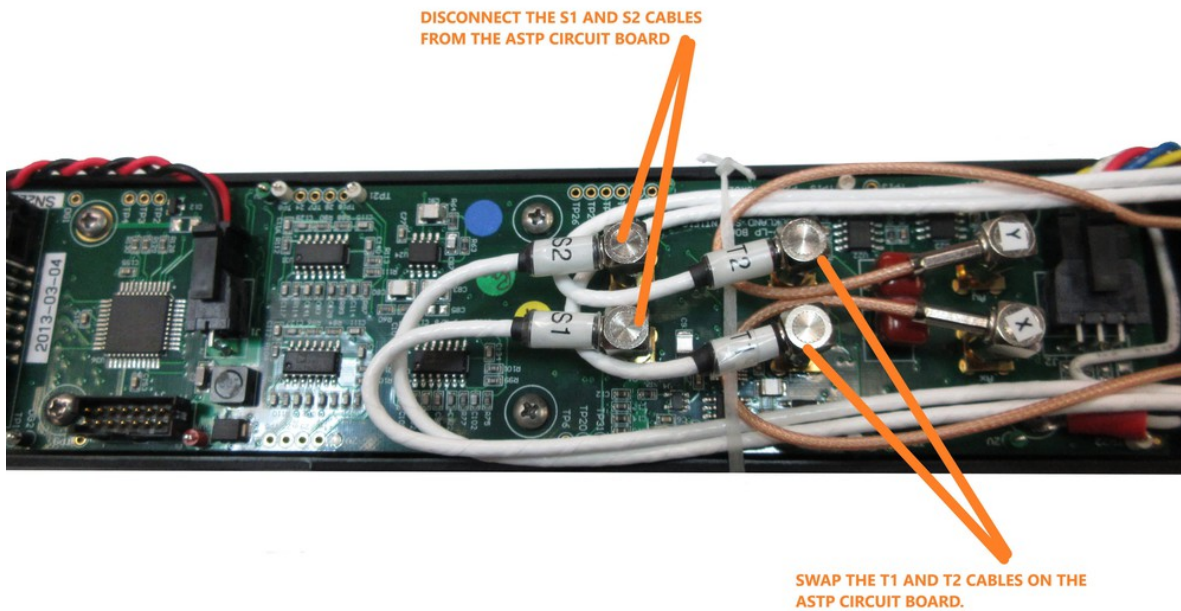

Figure 41: Modifying SMC connections on the ASTP board to identify the cause of noisy data.
- (ii) Open up the instrument and disconnect the shear probe's SMC connection to the ASTP board (Figure 41). Do a bench test. If the problem is resolved, then the SMC connector is likely damaged and the *SMC cable assembly may need to be replaced*.
- (ii) Open up the instrument and swap the two thermistor SMC connections to the ASTP board (Figure 41). Do a bench test. If the noise is now on the opposite channel, then the SMC connector is likely damaged and the *SMC cable assembly may need to be replaced*.